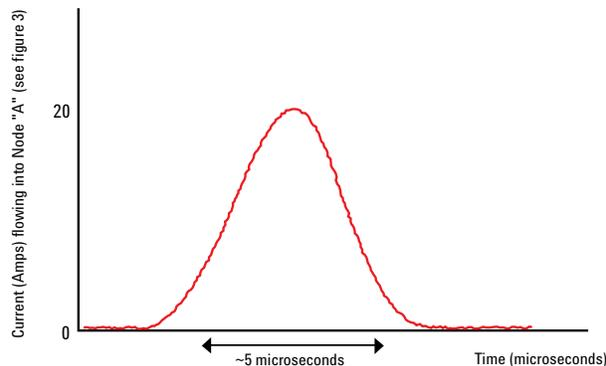

Figure 8: Solenoid current profile with working smart driver when load is shorted
Verifying that the smart driver responds appropriately to a short detection may require analog to digital conversion. Two facts should be verified: (1) the μC registers an over current condition when the solenoid load is shorted; (2) the smart driver reacted appropriately by shutting down to prevent damage. Verifying these facts requires knowledge of the peak and duration of the solenoid current profile, as seen in Figure 8. Finally, interrogation via the serial link will determine if the ECM was informed of an over current condition.